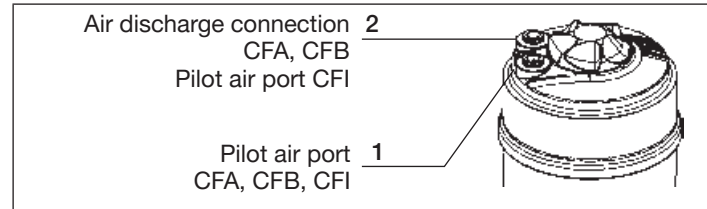

Fig. 17: Pneumatic connection
- Connect the control medium to the pilot air port 1 of the actuator (see “Fig. 17”).
- Plug the silencer into the free air discharge connection 2 (see “Fig. 17”).